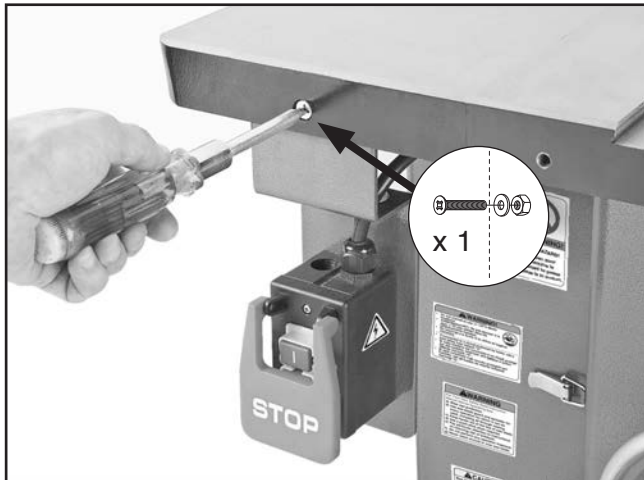

Figure 19. Installing switch.
8. Attach switch to extension wing with (1) $\frac{5}{16}$ "-18 x $\frac{3}{4}$ " flat head screw in front, as shown in **Figure 19**, and (1) $\frac{5}{16}$ " flat washer and (1) $\frac{5}{16}$ "-18 hex nut in back.